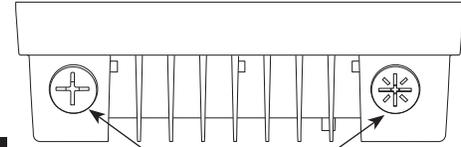

Fig: 10
1. Remove **Selector Switch Caps** by turning counterclockwise using a flat head screwdriver (*Fig. 10*).